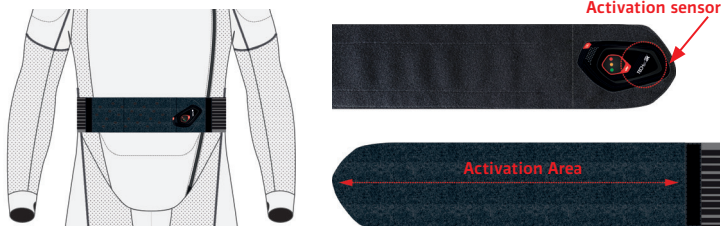

Figure 10
1. Put on the System, close the Closure Zip (2) from bottom to the top.
2. Close the Activation Belt (4) taking care to correctly attach the hook-and-loop patches, as shown in Figure 10; the System automatically turns on as soon as the belt is attached with the hook-and-loop patches.
3. Once the Activation Belt (4) has been correctly closed, check the LED Display (3) to verify that the System has turned on and that has started correctly (see "Display Indications" in Section 13). In particular, the user must verify that, after the System starts-up, no system fault is present.